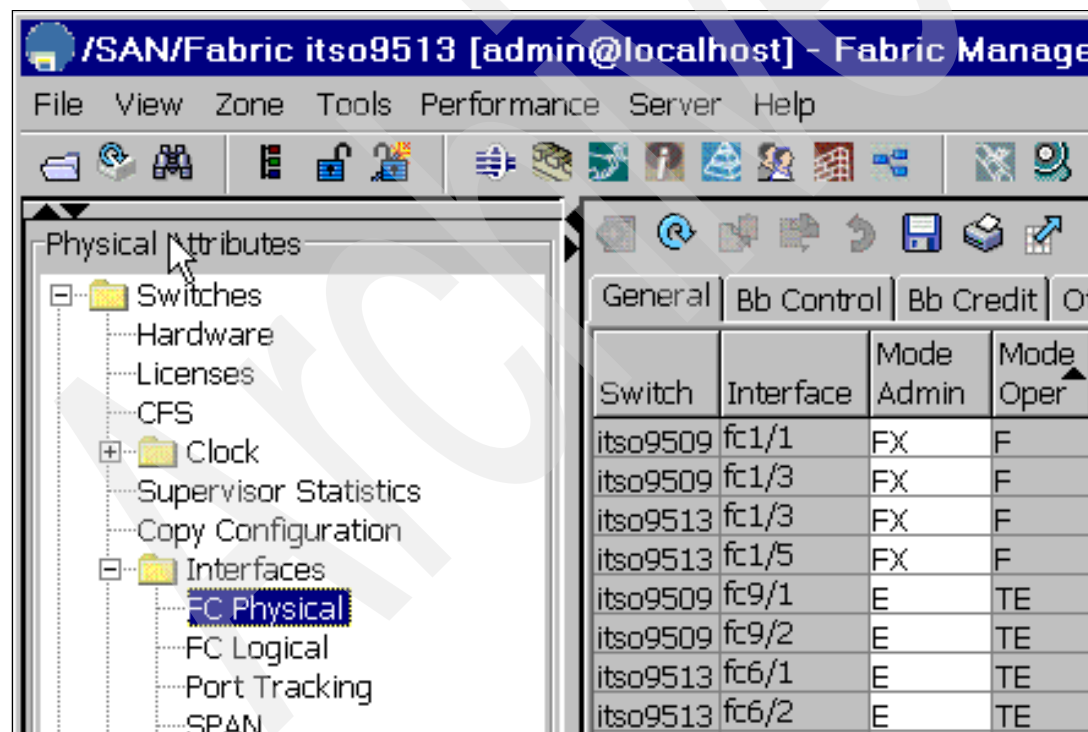

Figure 46 General tab of FM physical interface display
2. Open **Switches** → **Interfaces** folder, and select **FC Physical** as shown in Figure 46.
3. Click the **General** tab in the right information pane above the FM map to display the panel shown in Figure 46. Sort on any column by clicking it once.